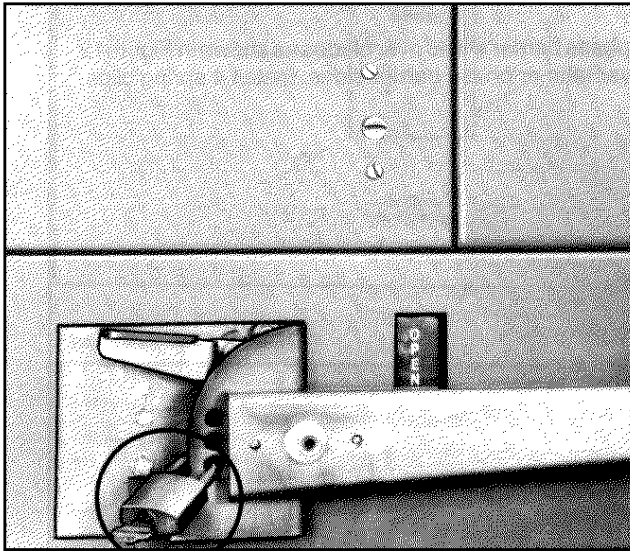

FIGURE 10A
Padlocking can be accomplished only when the switch is in the OPEN position. It has been designed to accommodate three (3) 3/8" dia. shackle padlocks. (See Figures 10A & 10B).